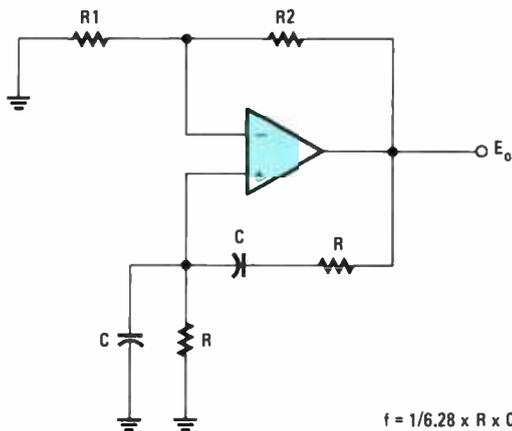

Fig. 20—This op-amp Wien-bridge oscillator circuit generates a sine-wave output.
35. Op-amps make excellent building blocks for a wide variety of signal sources: everything from simple oscillators to sophisticated function generators. An example is the sine-wave Wien-bridge oscillator shown in Fig. 20. It produces a
36. (positive feedback) $R1$ in Fig. 20 is usually a light bulb with a positive temperature coefficient: Its resistance increases if the current through it increases. If the output voltage increases, the current in $R1$ increases, thereby increasing the resistance of $R1$. The result is that the gain is decreased, which compensates for the original output increase. That simple AGC (Automatic Gain Control) keeps the